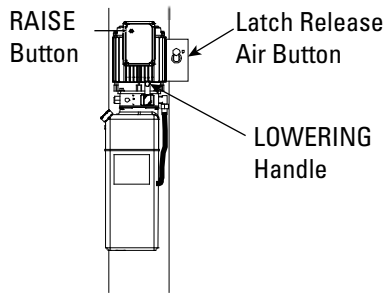

Fig. 2
5. **To Raise Lift:** Push the “**RAISE**” button on the power unit. Release button at desired height, Fig. 2.
10. Actuate the latch release valve on the power unit column to disengage all four locking latches, Fig. 2. Hold actuator until lift has fully lowered.
11. Push the lowering handle on the power unit to lower lift, Fig. 2. Lowering speed can be controlled by the force applied to the lowering handle.